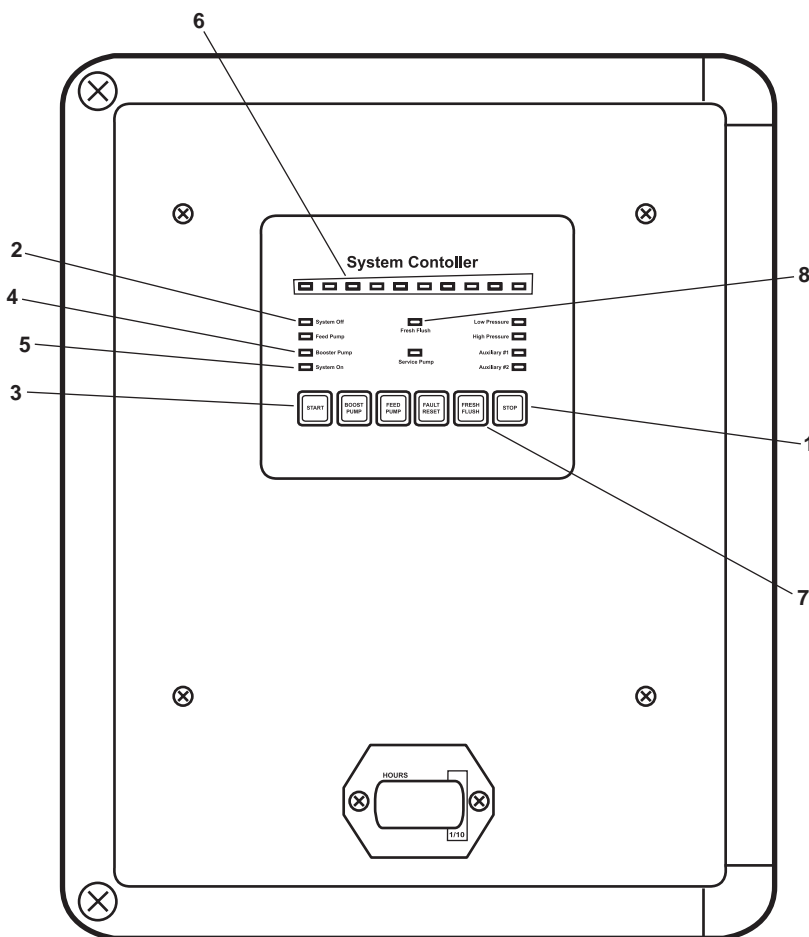

Figure 25. System Controller
- a. Press the STOP pushbutton (figure 25, item 1) and verify that the SYSTEM OFF indicator (figure 25, item 2) is illuminated.
- b. Press the START pushbutton (figure 25, item 3) and verify the following:
- (1) BOOSTER PUMP indicator (figure 25, item 4) illuminates.
- (2) SYSTEM ON indicator (figure 25, item 5) is illuminated.
- b. At the ROWPU 1 system controller (figure 21, item 14), verify that the SALINITY METER (figure 25, item 6) indicates that product water salinity is less than 500 parts per million (ppm), as indicated by five or fewer LEDs lit.
- a. Press the STOP pushbutton (figure 25, item 1) and verify that the SYSTEM OFF indicator (figure 13, item 2) is illuminated.
- b. At the ROWPU 2 system controller (figure 21, item 23), verify that the SALINITY METER (figure 25, item 6) indicates that product water salinity is less than 500 parts per million (ppm), as indicated by five or fewer LEDs lit.